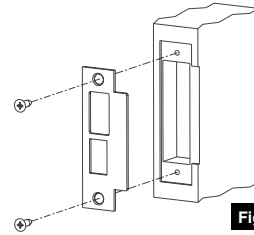

Figure 17
1. Install strike using shorter 3/4" strike mounting screws. If strike box is needed, insert between strike and door frame. (Figure 17)